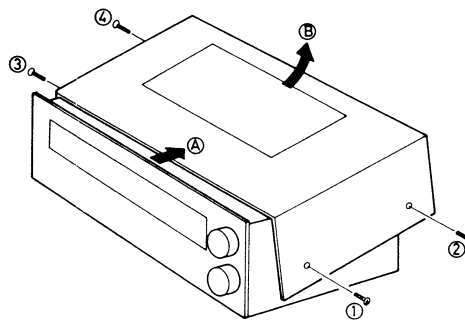

Fig. 7
1. Remove the four cabinet mounting screws (nos 1~4 screws in fig. 7).
2. Sliding it toward **(A)** direction and lifting it upward **(B)** direction as shown in fig. 7.